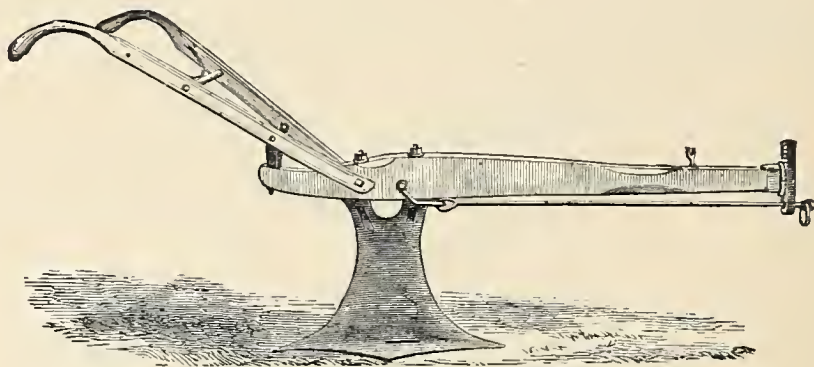

Fig. 296. — Reversible Subsoil Plow.
*Mapes Reversible Subsoil Plow*, represented by *Fig. 296*, is made of cast-iron and in two sizes. The smaller size, No. A, works from twelve to fourteen inches